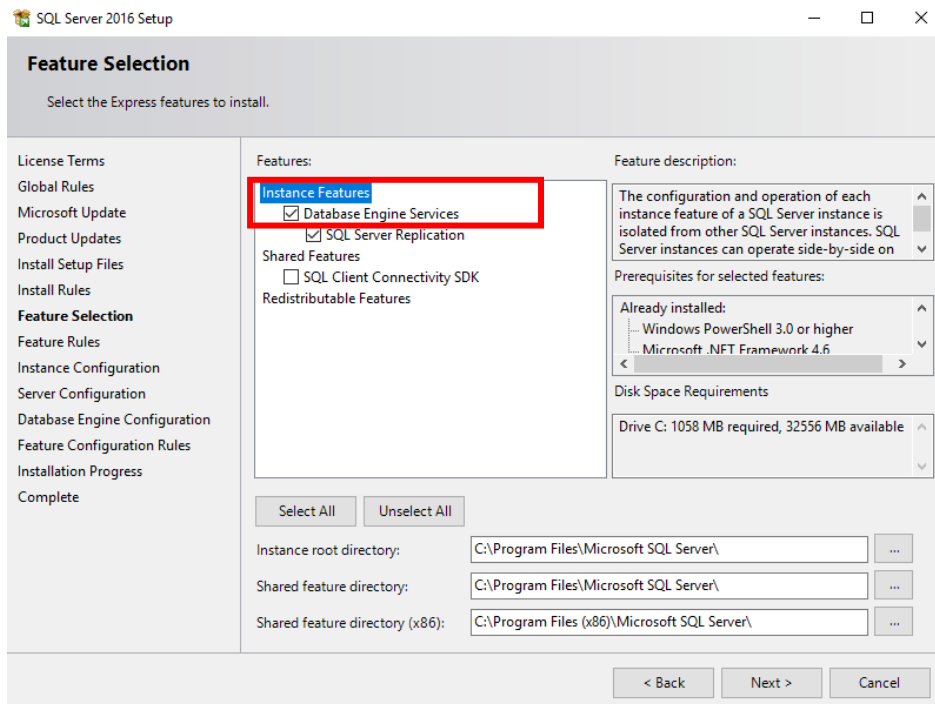

Figure 2.4 - Microsoft SQL Server 2016 Express – Option configuration
- ▶ The required options are pre-selected (see Figure 2.4).